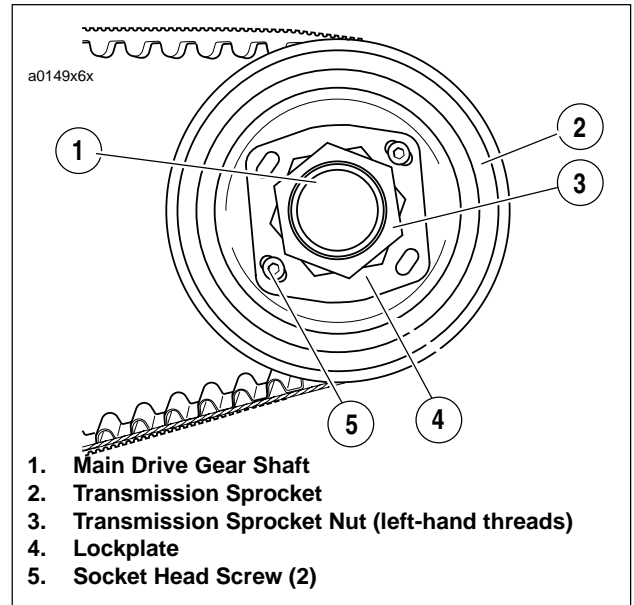
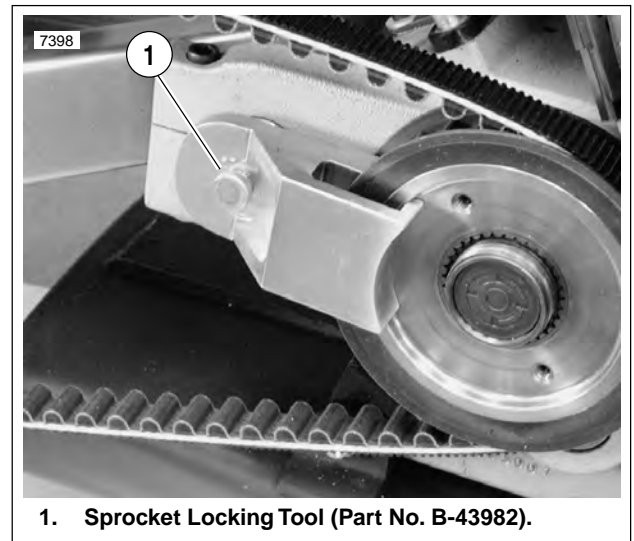

Figure 6-63. Transmission Sprocket
Figure 6-64. Sprocket Locking Tool
- See Figure 6-63. Place transmission in first gear. Remove two socket head screws (5) and lockplate (4).
- See Figure 6-63. Remove transmission sprocket nut (3) from main drive gear shaft (1).
- See Figure 6-64. Secure pulley using SPROCKET LOCKING TOOL (1) (Part No. B-43982).
- See Figure 6-63. Install transmission sprocket (2) with secondary drive belt onto main drive gear shaft (1).
- Apply a few drops of LOCTITE® thread locker 262 (red) to the **left-hand threads** of transmission sprocket nut (3). Position nut with washer-faced side facing transmission sprocket. Turn the nut **counterclockwise** to install it onto main drive gear shaft.
- See Figure 6-64. Install SPROCKET HOLDING TOOL (1) (Part No. B-43982) as shown.
- See Figure 6-63. Install lockplate over nut so that two of lockplate's four drilled holes (diagonally opposite) align with sprocket's two tapped holes.
5. See Figure 6-63. Install two socket head screws through aligned holes of lockplate and into tapped holes of sprocket. Tighten to 90-110 **in-lbs** (10.2-12.4 Nm).